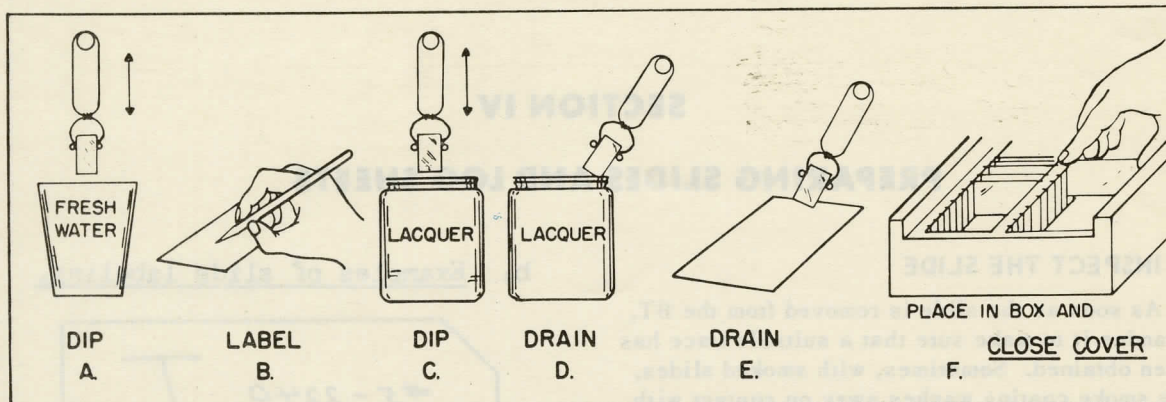

Figure 4-1. Lacquering the Slide
4. LACQUER THE SMOKED SLIDE (Figure 4-1)